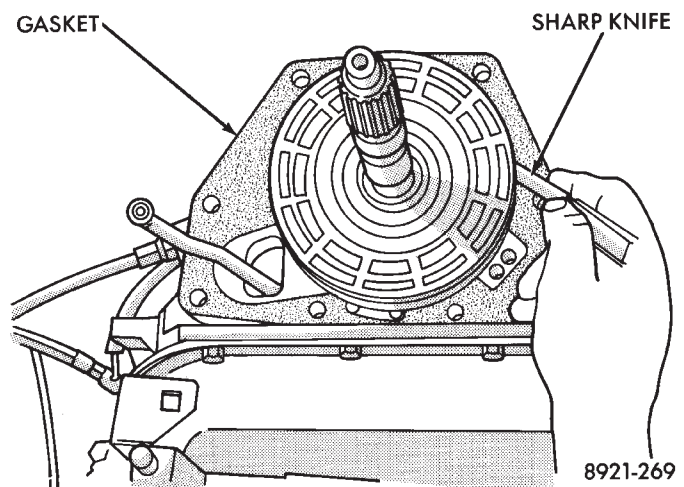

Fig. 53 Trimming Overdrive Case Gasket
(1) Be sure overdrive unit Alignment Tool 6227-2 is fully seated before moving unit. If tool is not seated and gear splines rotate out of alignment, overdrive unit may have to be disassembled in order to realign splines.
(2) If overdrive piston retainer was not removed during service and original case gasket is no longer reusable, prepare new gasket by trimming it.
(3) Cut out old case gasket around piston retainer with razor knife (Fig. 53).
(4) Use old gasket as template and trim new gasket to fit.
(5) Position new gasket over piston retainer and on transmission case. Use petroleum jelly to hold gasket in place if necessary. **Do not use any type of sealer to secure gasket. Use petroleum jelly only.**